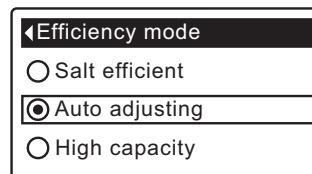

FIG. 79
- 8a. **Efficiency mode:** If the desired efficiency mode already has a black dot next to it (See Figure 79), go to Step 9. Otherwise, press the DOWN (▼) or UP (▲) buttons to scroll to the desired efficiency mode, then press SELECT (O) to choose it.